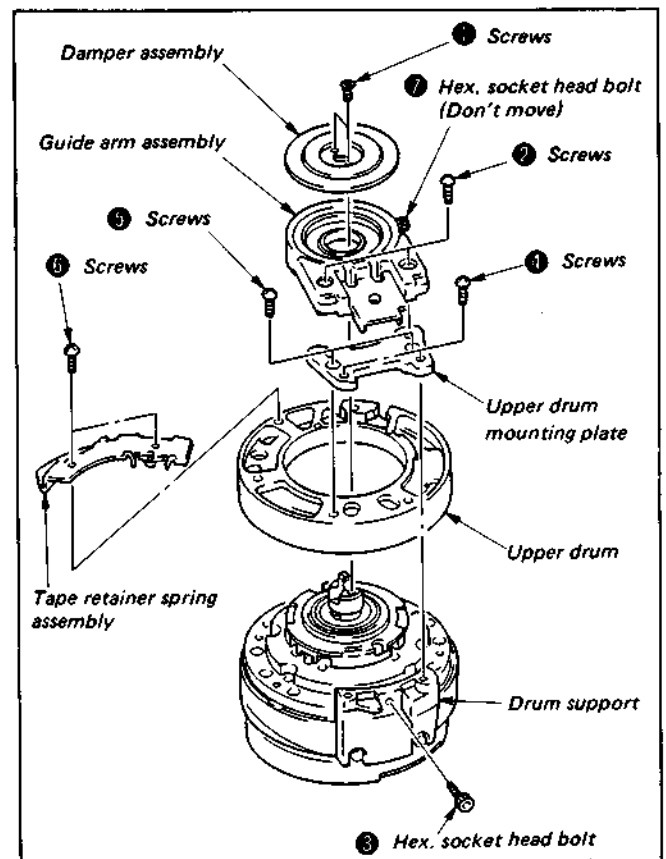

Fig. 3-8 How to remove upper drum
#### 3-3-1. How to Remove Upper Drum (See Fig. 3-8)
### 3-3-2. How to Refit Upper Drum (See Fig. 3-8)
- 7) Insert the centering jig found in the box of the replacement upper drum between the guide arm assembly and the damper holder, and tighten screws ② firmly. Remove the centering jig, and check the clearance between the guide arm assembly and the damper holder for uniform distribution (See Fig. 3-8, 3-9).
- 8) Refit the damper assembly with two screws ①.